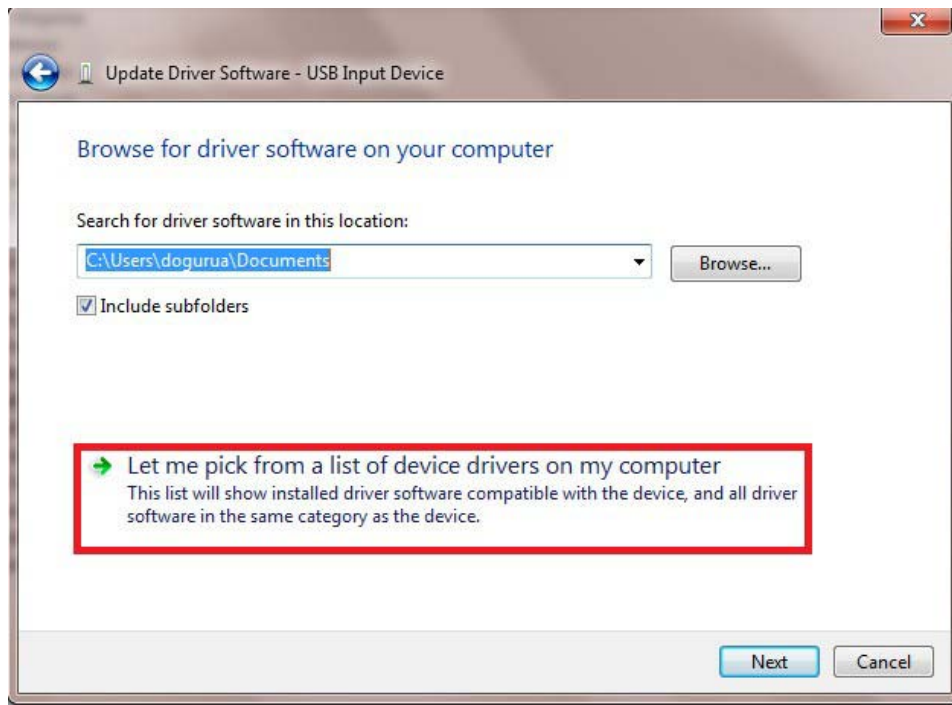

Figure 9 • Updating Driver Software - Selecting the Driver Location
9. Click **Let me pick from a list of device drivers on my computer** and click **Next** as shown in Figure 9.